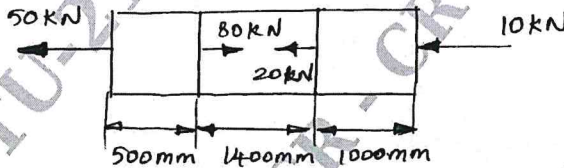

Fig.Q1(c) (04 Marks)
- c. A bar having cross-sectional area 300 mm^2 is subjected to axial forces as shown in Fig.Q1(c). Find the total elongation of the bar. Take $E = 84 \text{ GPa}$.